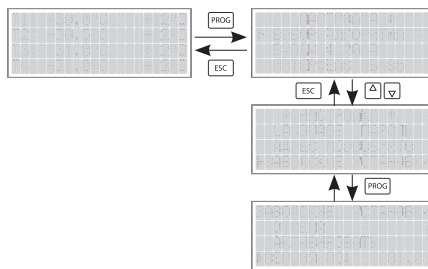

Figure 26.
7. Go to the “Factory Settings” menu and position the cursor on “Version Selection,” see Figure 26;